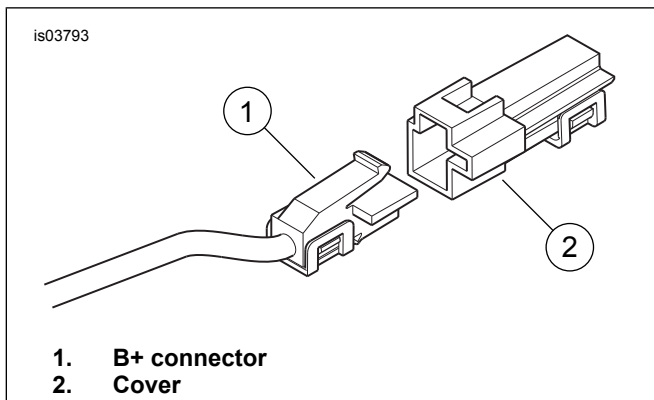
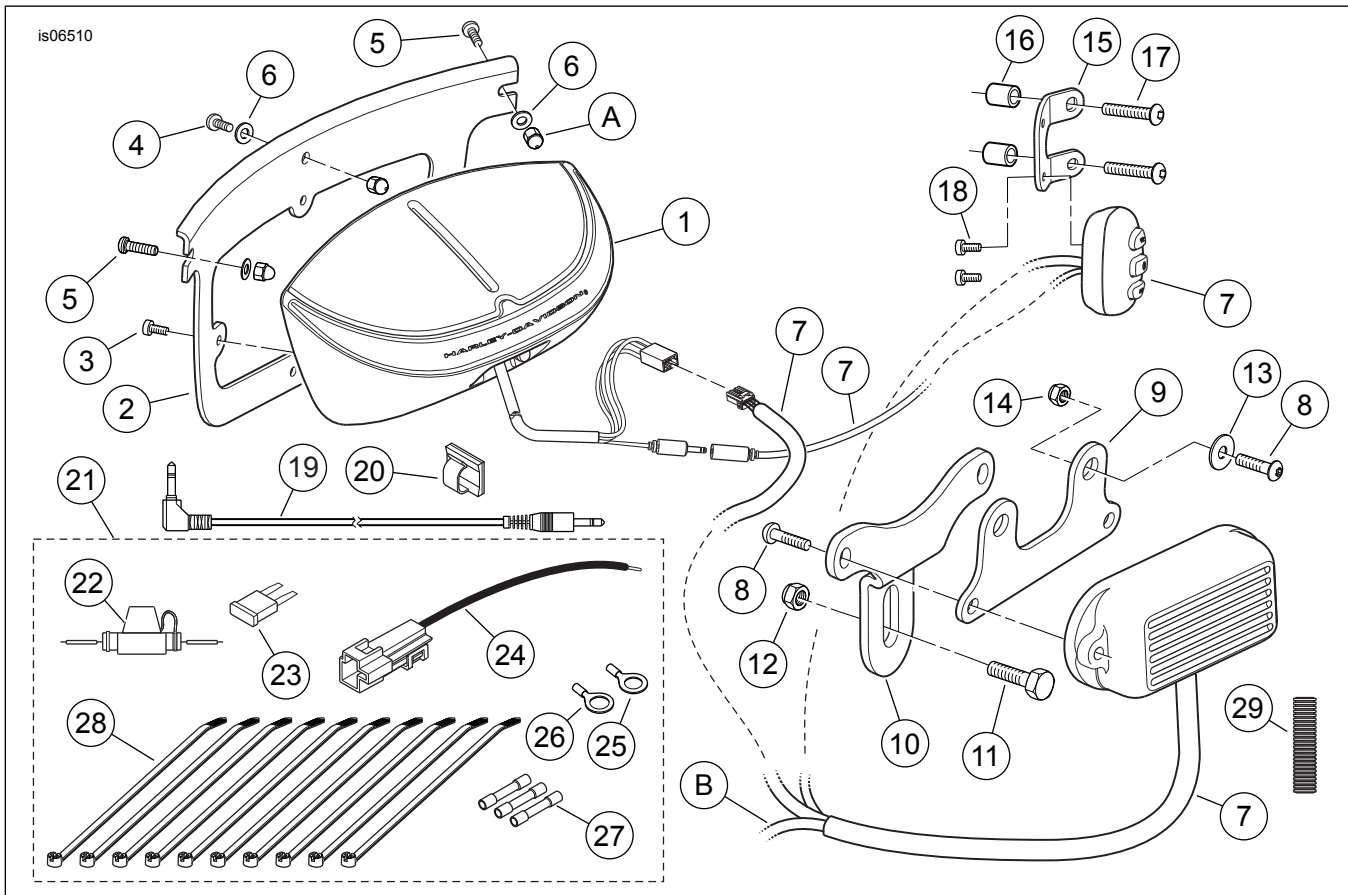

Figure 4. B+ Connector
Figure 5. Service Parts, Windshield-Mounted Speaker and Amplifier Kit
3. See Figure 5. Get the **new** #12-24 x 21 mm (0.81 in) long screw (4), two 25 mm (1 in) long screws (5), three black washers (6) and the assembled speaker pod (1) and mounting bracket (2) from the kit.
5. Place a black washer on the threads of the short screw. Insert the screw, from the front, through the center hole in the horizontal brace, windshield and speaker pod bracket, and fasten with one of the acorn nuts (A) removed in Step 2.
1. See Figure 5. Get the electrical hardware pack (21) from the kit. Select the in-line fuse holder (22) and one blue sealed splice connector (27) from the hardware pack.
4. Select the free end of the **red** wire in the wire harness assembly. Get two blue sealed splice connectors (27) and the 12V adapter wire (24) from the hardware pack. Splice the in-line fuse holder to the red wire per the instructions in the service manual. Splice the adapter wire to the opposite end of the in-line fuse holder.
5. See Figure 4. Locate the B+ (battery positive) connector (1) on the main electrical harness under the seat (a red wire with an unused gray connector). Remove the cover (2) from the B+ connector. Mate the **red** power wire connector on the wire harness assembly to the B+ connector.
2. Coil excess wire under the fuel tank, inside the nacelle or under the handlebar clamp where it will not interfere with steering function. Install the 5A fuse (23) in the in-line fuse holder on the red wire.
4. See Figure 5. The wire harness from the hand control can be secured to the handlebar with cable straps or secured to the upper triple clamp or nacelle with the adhesive-backed clip (20) from the kit. If using the clip: